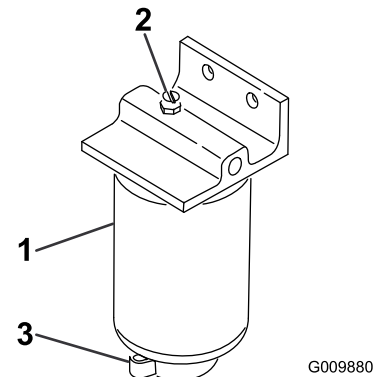

Figure 30
3. Loosen the vent plug on top of fuel filter/water separator (Figure 30).